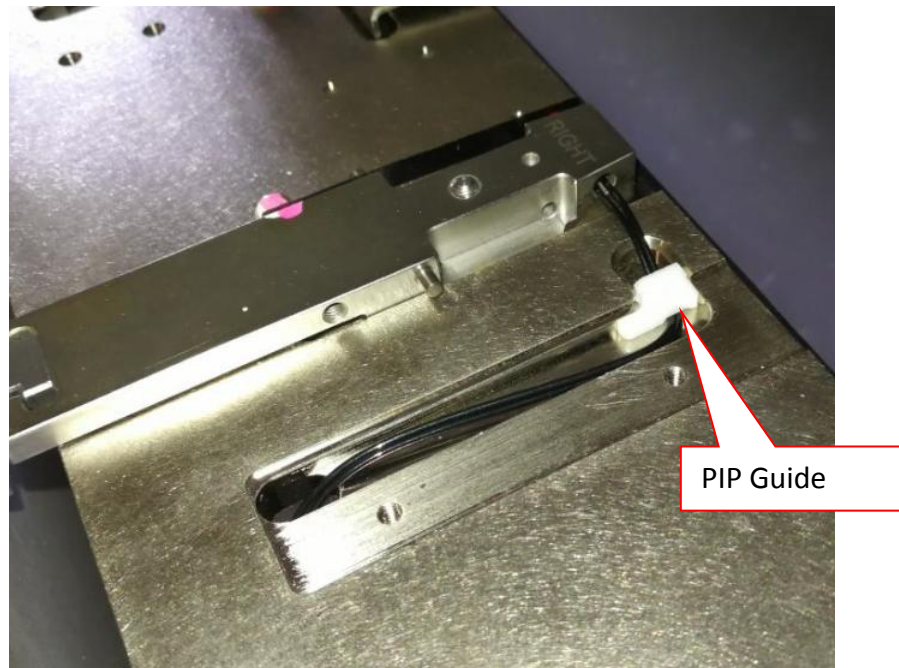

Figure 30 PIP sensor wire guide assembly
3. Assemble PIP Guide as shown in Figure 30